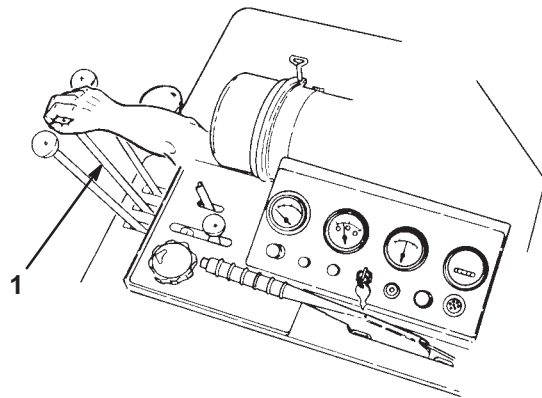

Figure 6
2. With the parking brake on, start the traction unit and adjust the engine to half throttle. Be sure to release the lift arm lock lever for the #1, #2 and #3 cutting units and put the reel lift control for the #1, #2 and #3 cutting units in the lower position (Fig. 6). Release the lever and let it return to the neutral position.